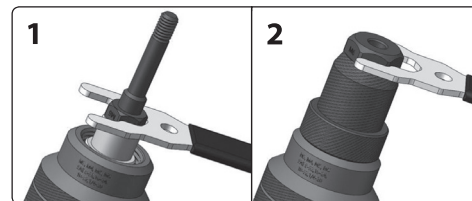

Fig. 3
- 1) **Into the rivet adapter, screw in the rivet attachment with a nut, step 1 and 2 according to fig. 3.** The rivet attachment consists of two parts (threaded central axle and a top nut - see fig. 3). The size of the rivet adapter needs to be selected according to the size of the rivet nut. The size and length of the rivet nut must be selected to respect the diameter and depth of the pre-drilled hole and the material being joined, otherwise the material being joined will not be joined properly. The size of the rivet nut must correspond to the marking on the rivet attachment in the form of the marking, e.g. M5... Then tighten the rivet attachment using the supplied wrench (fig. 3, step 2).